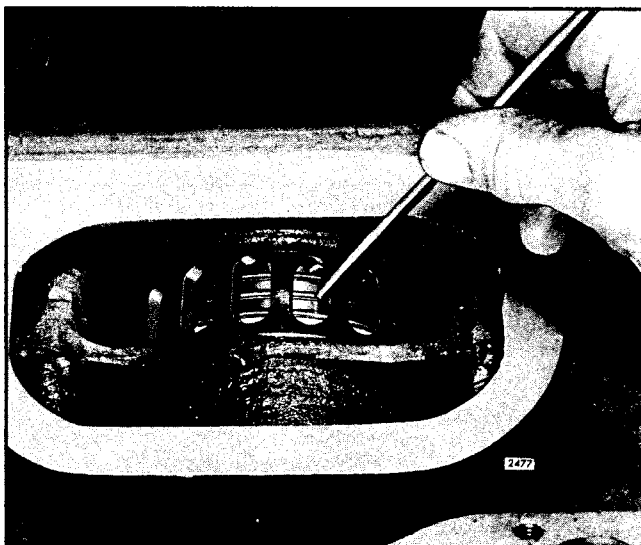

Fig. 2 - Inspecting for Broken Piston Rings Through Cylinder Liner Air Ports
A. Piston rings may be stuck or broken. To determine the condition of the rings, remove the air box cover and press on the compression rings (Fig. 2) with a blunt tool. A broken or stuck ring will not have a spring-like action.